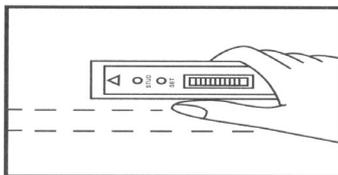

Fig.7
- 3.2.9. To locate horizontal battens or studs, place the unit on the wall as shown in Fig.7 and use the method outlined above.